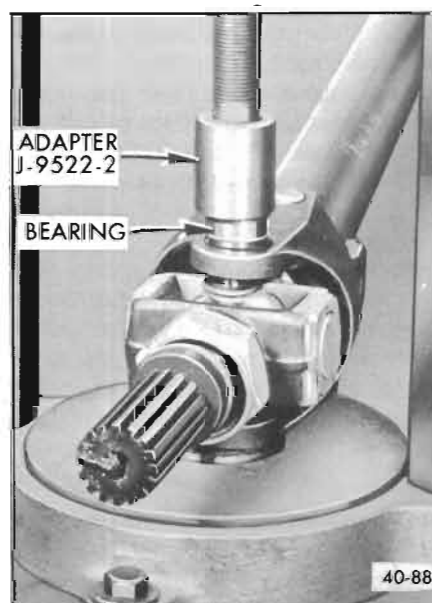

Figure 40-88—Pressing Bearing Into Position
3. Place the assembly in position with Power Ram and Pump as shown in Figure 40-88.